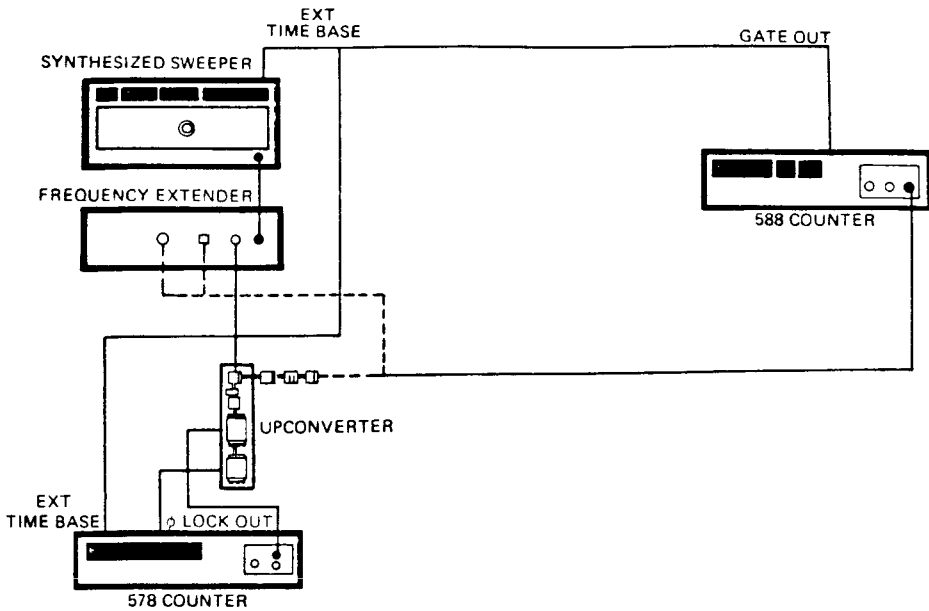

Figure 4-8. Band 3 Sensitivity Test Setup
1. Connect equipment as shown in Figure 4-8.